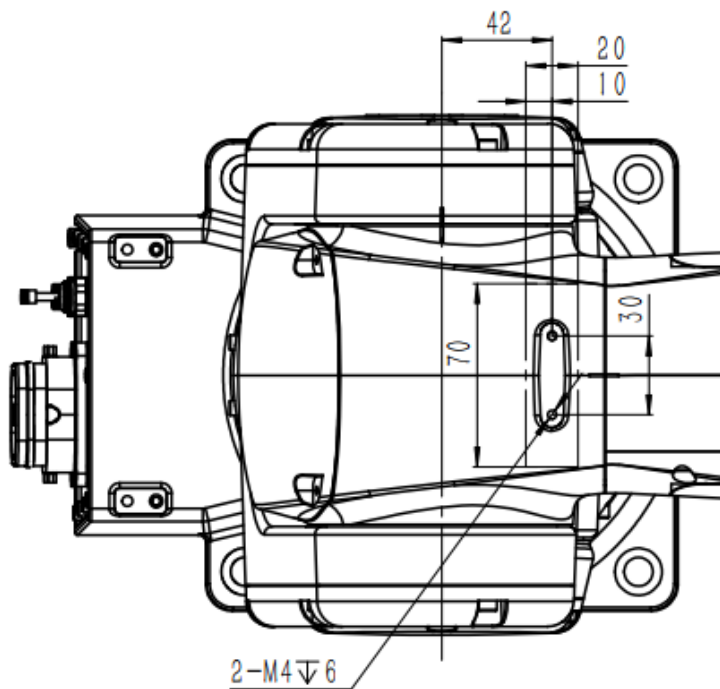

Figure 6-10 Diagram of the size of the elbow load interface of the AIR4-560A manipulator
- The center of mass of the elbow load should be located inside the 20X70mm area shown in Figure 6-10.
The specifications and dimensions of the three-axis elbow load installation hole for the AIR4-560A manipulator are shown in Figure 6-10 below.